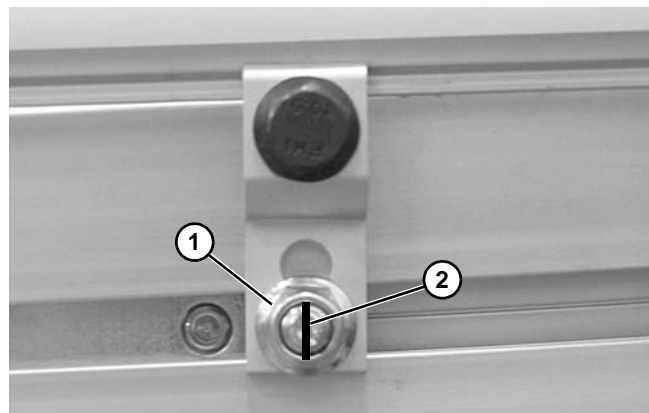

Figure 86
3. Tighten nuts (**Figure 86, item 1**).
Be certain that slot (Figure 86, item 2) is close to vertical when finished tightening nut.